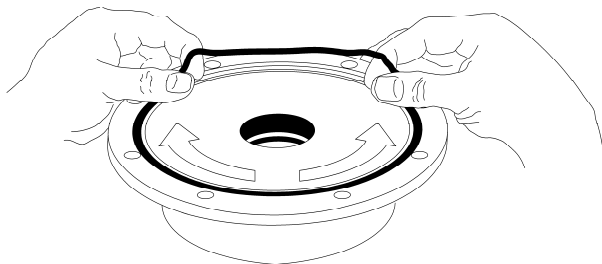

Figure 12 – Head O-ring Installation
10. Install a new head O-ring (72) in the groove on the inside face of the head (20). Lay the O-ring flat and start in on one side of the groove, stretching ahead with the fingers, as shown in Figure 12.